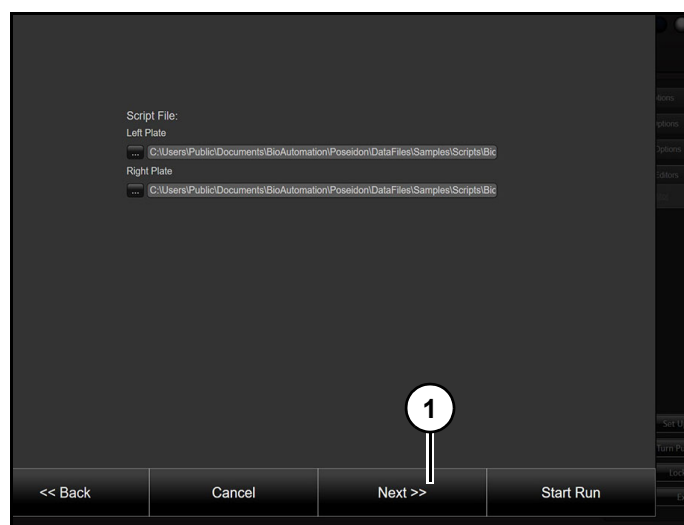

Figure 83
3. Click "Next" (1) (Figure 83).